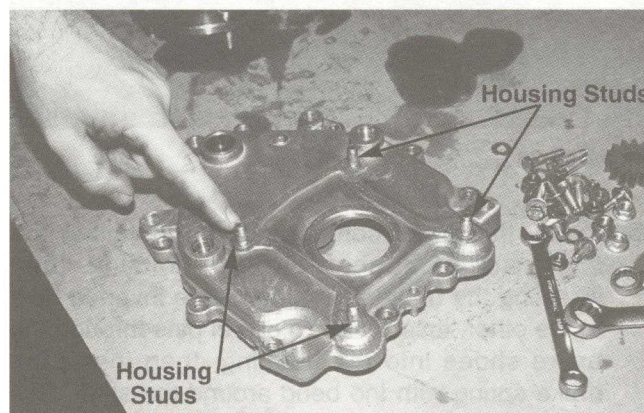

FIGURE 28.
28. Before installing the smaller housing is to inspect the four studs and make sure they are in place and not loose in the housing. See figure 28.